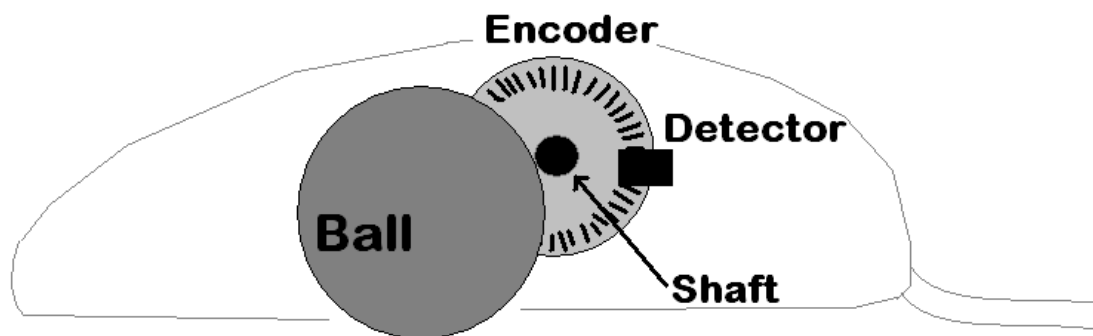

Figure Q4[b]
- [b]** Figure Q4[b] shows an old “ball-type” computer mouse uses a 20 mm diameter ball turning a 3.5 mm diameter shaft connected to a radial fringe type relative position encoder being read by 2 photo diodes. The encoder has a radius of 7.5 mm.